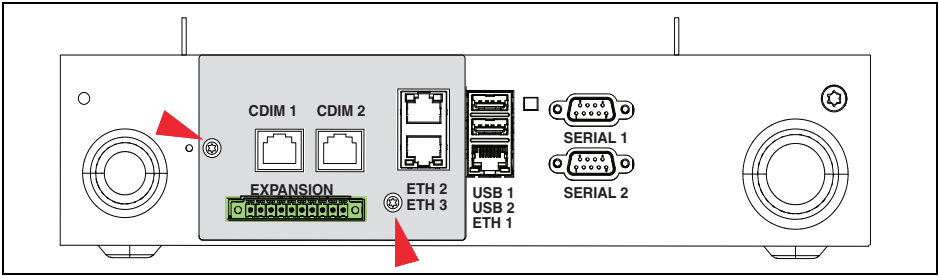

Figure 7. Remove Two T15 Screws Securing Comm Plate
4. Remove the two T15 #8 x 0.3125 screws securing the expansion comm port plate to the bottom of the console enclosure and set them aside with the comm plate. (see Figure 7).